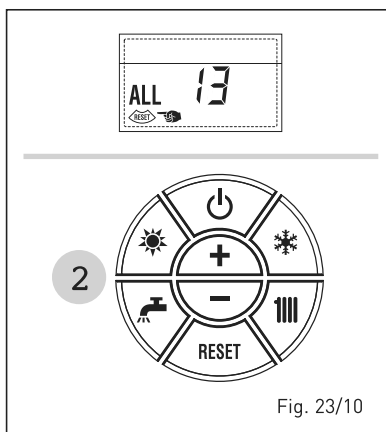

Fig. 23/10
– **ANOMALIA SONDA FUMOS “ALL 14”** (fig. 23/11)